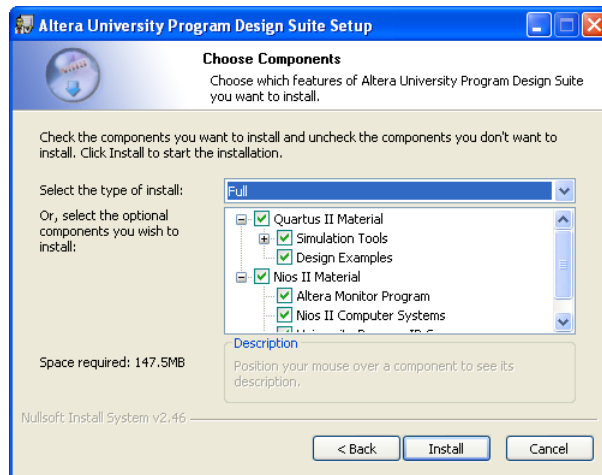

Figure 2. The components that will be installed.
- The next screen, shown in Figure 2, lists the components that will be installed, which include the Monitor Program software and University Program IP Cores. The University Program IP Cores provide a number of I/O device circuits that are used in Nios II hardware systems.